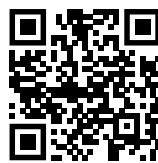

Fig. 128
- ▶ Åpne [Liebherr SmartMonitoring Dashboard](https://smartmonitoring.liebherr.com). (se Fig. 128)